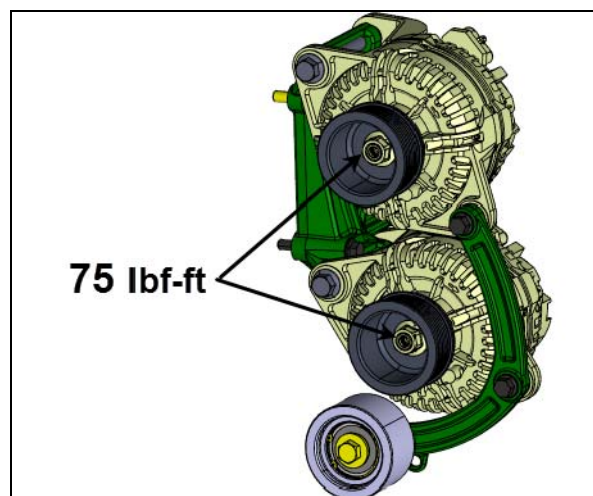

FIGURE 23
12. Mount pulley onto alternators (**FIGURE 23**). Use Loctite 243 blue on threads. Tighten pulley mounting nut to **75 lbf-ft**.